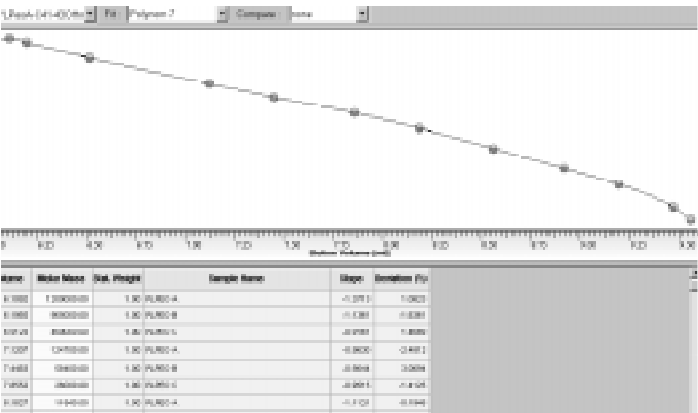
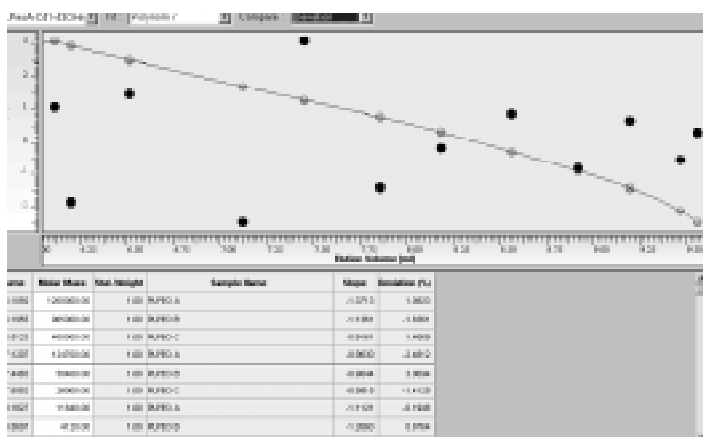

Figure 7:
Figure 8:
- Figure 7 shows the same calibration data with a 7th order fit. This fit is superior as shown by the lower deviation values, in addition the deviation points are randomly distributed (figure 8).